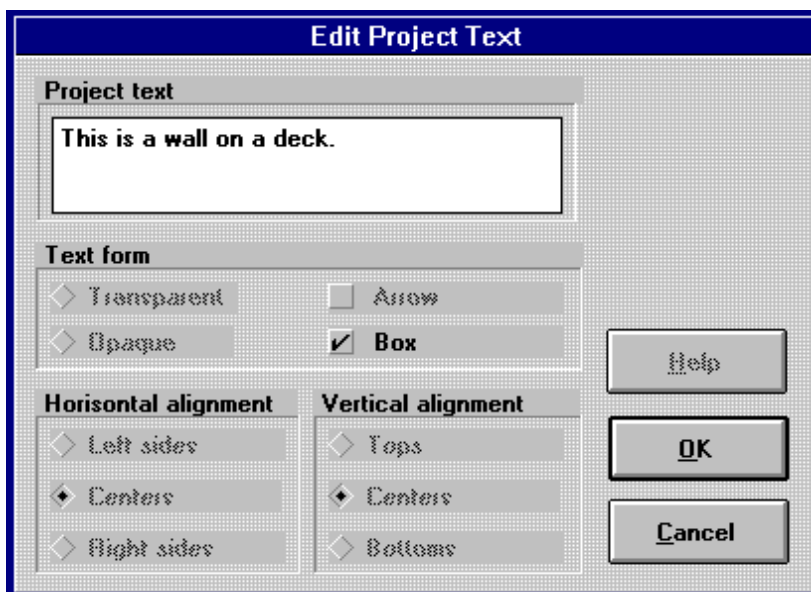

Figure 6.44
3. **Write the desired text** in the project text field and define whether the text shall be in a box or not. See the Edit Project Text dialog box in figure 6.44 and the description below.